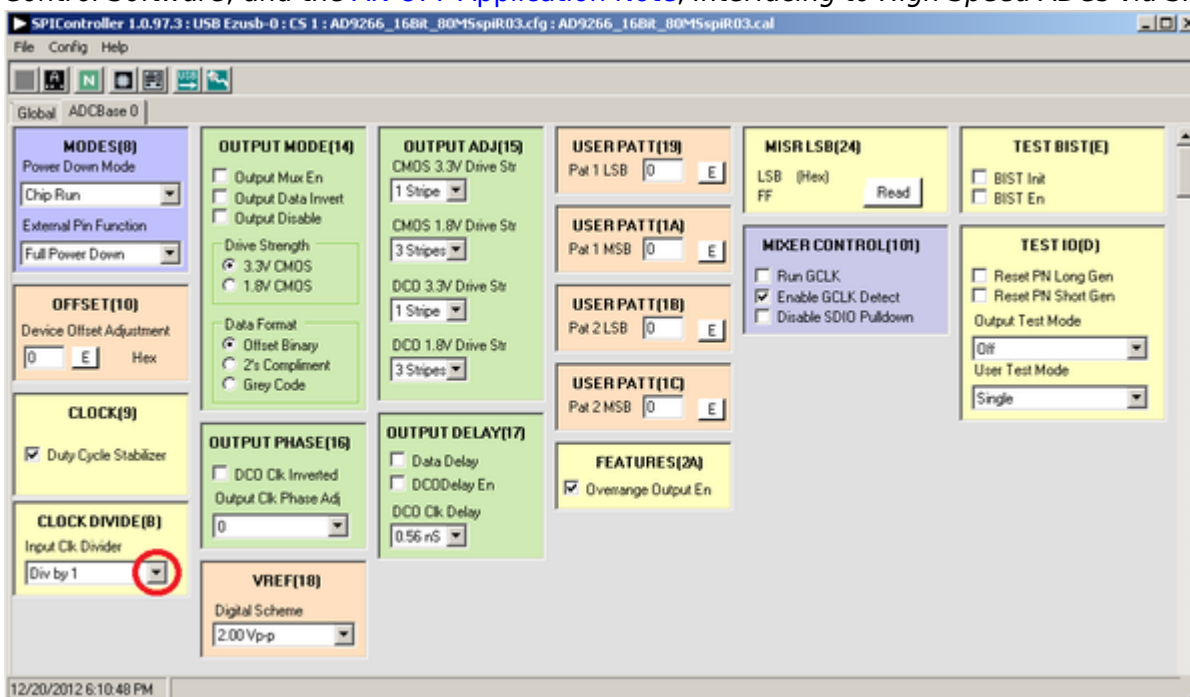
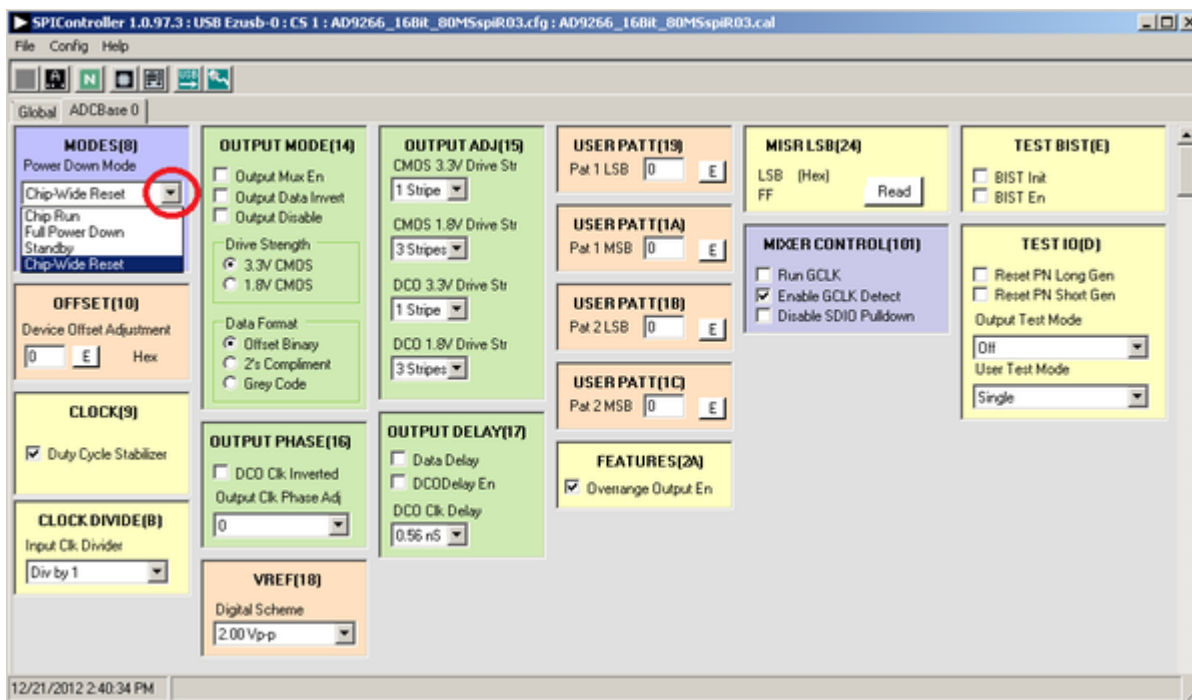

Figure 9.
Figure 10. SPI Controller, Chip Power Mode - Digital Reset Selection
3. In the **ADCBASE 0** tab of the **SPIController** window, find the **CLOCK DIVIDE(B)** box (see Figure 9), and the **MODES(8)** box (see Figure 9). If using the clock divider, use the drop-down menu to select the correct clock divide ratio, as desired. If there is any interruption of the ADC clock during power-up or during operation, a digital reset may be needed to reinitialize the ADC (Figure 10). For additional information, refer to the data sheet, the AN-878 Application Note, High Speed ADC SPI Control Software, and the AN-877 Application Note, Interfacing to High Speed ADCs via SPI.
4. Note that other settings can be changed on the **ADCBASE 0** tab (see Figure 9) to set up the part in the desired mode. See the appropriate part data sheet, the AN-878 Application Note, High Speed ADC SPI Control Software, and the AN-877 Application Note, Interfacing to High Speed ADCs via SPI for additional information on the available settings.
- For proper capture, DCO-to-data output timing might need to be adjusted. In the ADCBase0 tab of SPIController (shown in Figure 9), in the OUTPUT DELAY(17) field, check the DCO DELAY EN box, and try various output delay settings to see if capture improves.